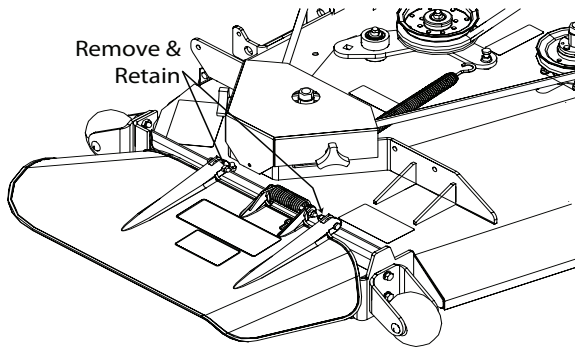

**Figure 3-6. SCZ/STC 48V OCDC Pivot Bracket Install**
19. Install the OCDC pivot bracket to the cutter deck. Secure using one (1) 5/16-18 x 1" bolt, one (1) 5/16" flatwashers, one (1) 5/16" lockwashers and one (1) 5/16-18 elastic stop nuts. Do not tighten hardware at this time. See Figure 3-6.
20. Using the OCDC pivot bracket as a guide, locate and drill the required hole in the discharge chute mounting rail using an 11/32" drill bit. See Figure 3-6.
21. Secure the OCDC pivot bracket to the discharge chute mounting rail using one (1) 5/16-18 x 1" bolt, one (1) 5/16" flatwasher, one (1) 5/16" lockwasher and one (1) 5/16-18 elastic stop nut. See Figure 3-6.